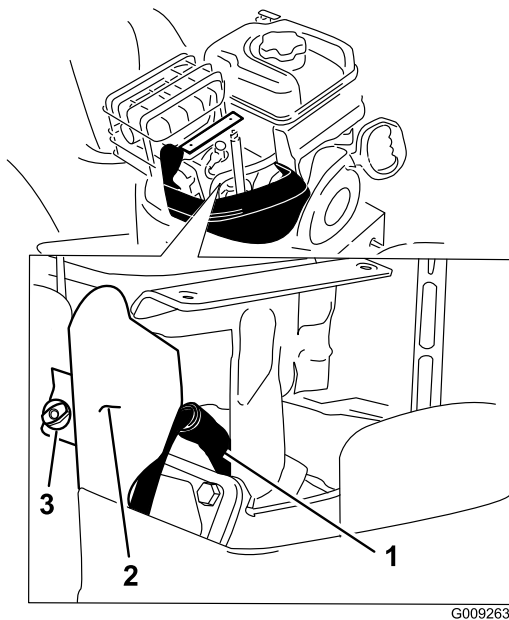

Figure 34
4. Remove the bracket thumb screw and the bracket (Figure 34).
- Clean around the base of the spark plug (Figure 34).